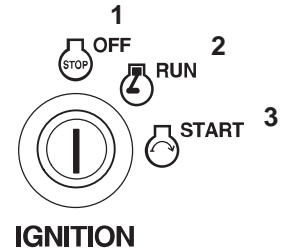

Figure 14
3. Let the engine idle for 60 seconds (Fig. 14).
4. Turn the ignition key to off and remove the key (Fig. 14).